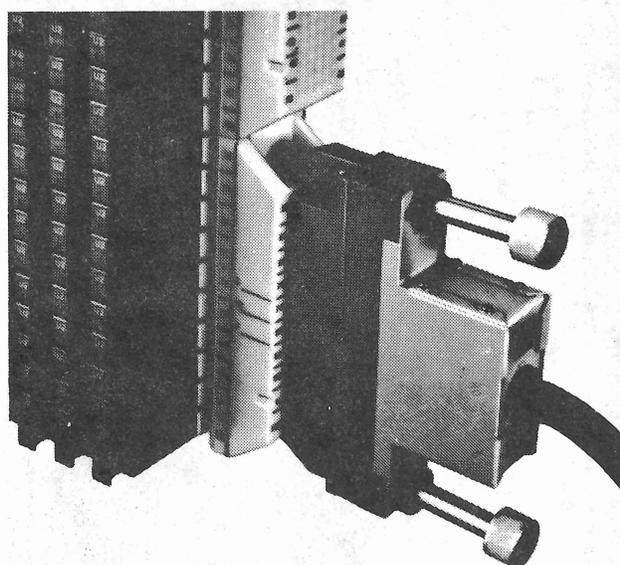

Figure 33. Fifty-Pair Front Tap Test Shoe
17.01 A 50 Pair Test Shoe can be connected to either of the connector test fields for multi-pair outside plant testing and cable arrangements (see figure 33). Use the 50 Pair Shoe as follows: